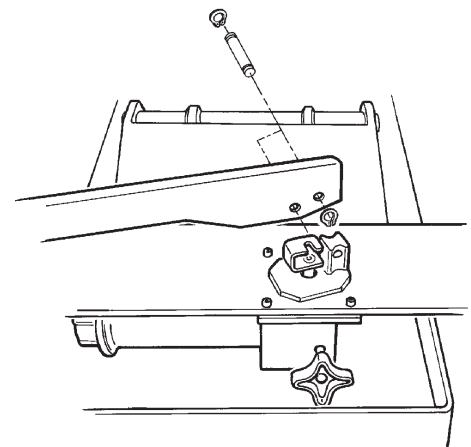

Figure 1
1. Assemble the handle to the pump by aligning the holes in the handle with the holes in the pump cap and piston. Slide a pin through each hole, and secure each pin with a retaining ring on each end. See Figure 1.